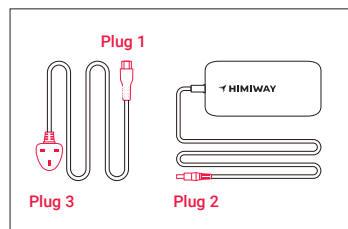

Figure 1
**Step 2:** Assemble the charger as shown in Figure 1 by inserting the plug (Plug 1) into the transformer.